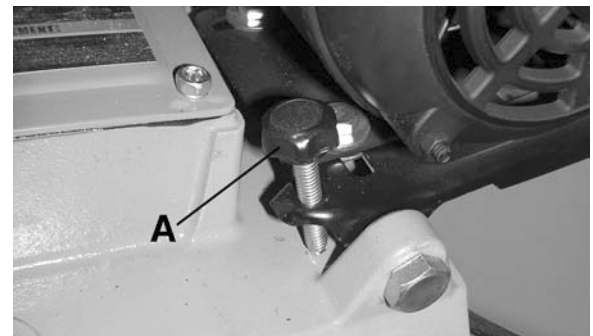
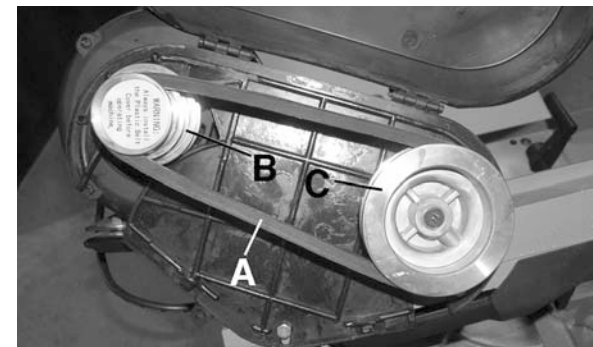

FIGURE 9
FIGURE 10
- 1) First step is to unscrew the belt tension knob (A) Fig.9 in order to bring the motor assembly/motor pulley (B) Fig.10 closer to the drive pulley (C) Fig.10.
- 2) Then slide the belt (A) Fig.10 around the appropriate pulleys that will give you the required blade speed, see chart above.
- 3) Finally, tighten the belt tension knob (A) Fig.9 to tension the belt. The proper belt tension is achieved when the belt has a 1/2" deflection when pressed in the center.